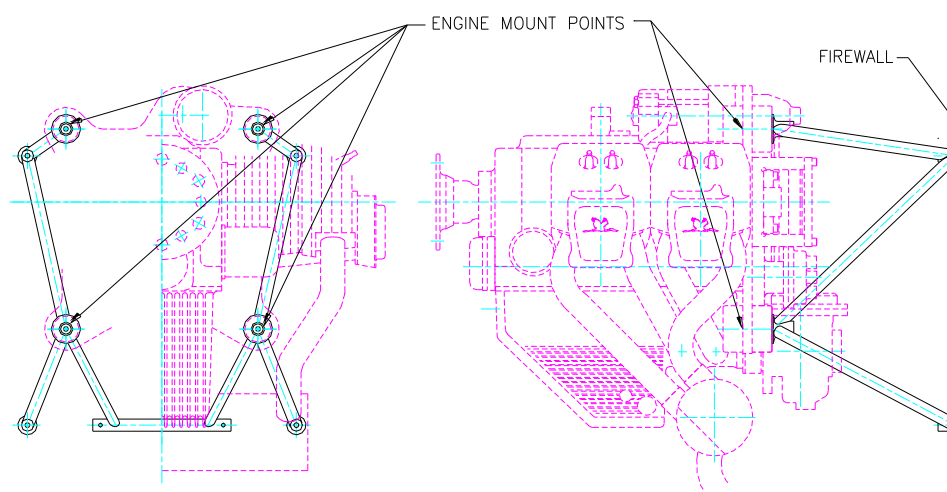

Figure 5. Engine Mount Point Locations
- Each engine mounting point is rubber mounted to damp the engine vibrations. The correct installation of these rubbers is shown below in Figure 5.